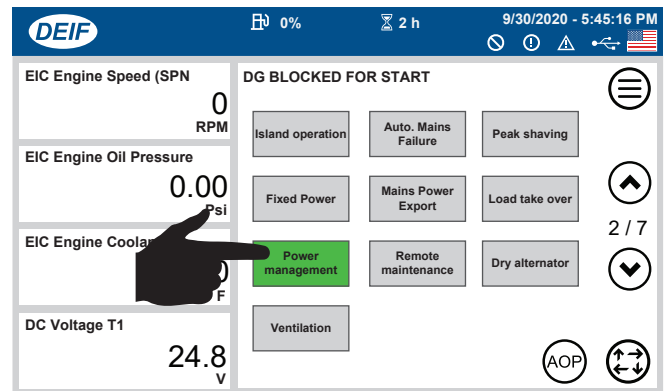

Figure 92. Screen 2 of 7 (Power Management Button)
10. Verify that **screen 2 of 7** is displayed (Figure 92), then press the **Power Management** button.